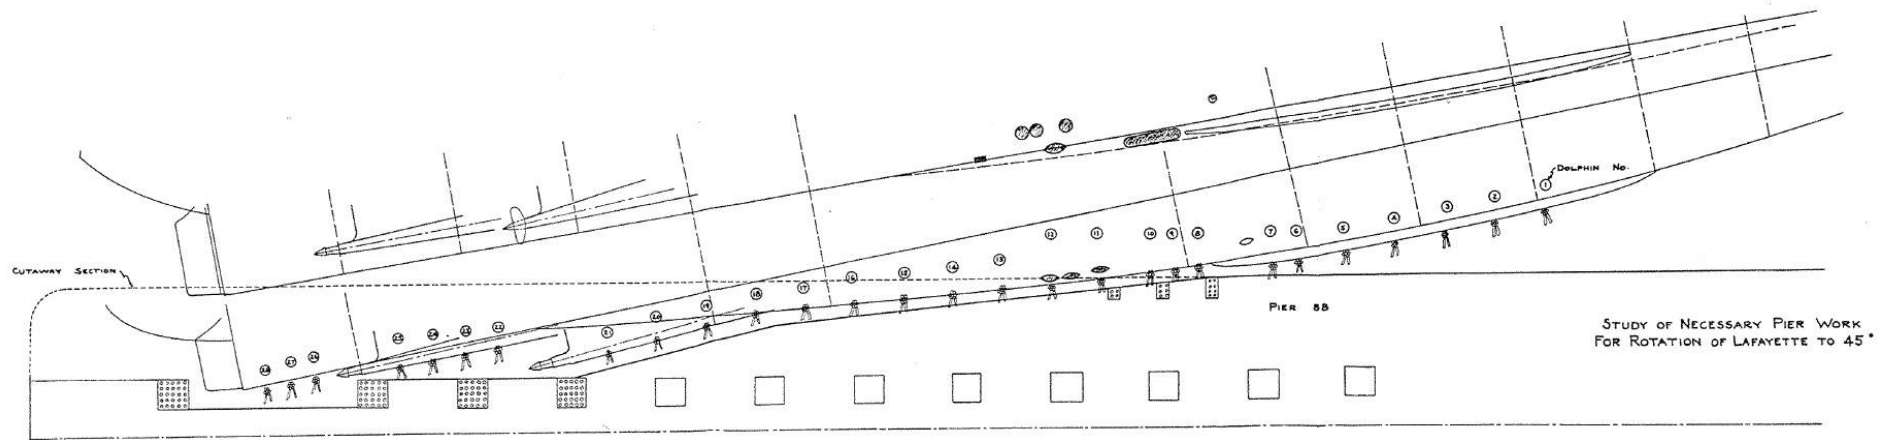

Figure 28
22. Under the plan to rotate the *Lafayette* to a 45° inclination before floating it clear of the bottom, rotational studies of various ship's sections were made. It was felt most likely that the ship would rotate about an axis with one end near the bilge keel amidships and the other end at the point of the rock bearing forward. This meant that a portion of Pier 88 would have to be cut away in order to avoid contact with the ship. Figure 28 is a plan view showing the portion of the pier removed and the expected position of the ship at 45° . Pile clusters or dolphins were driven in such locations as to commence bearing as the ship reached the 45° position. (See fig. 29, airview.)